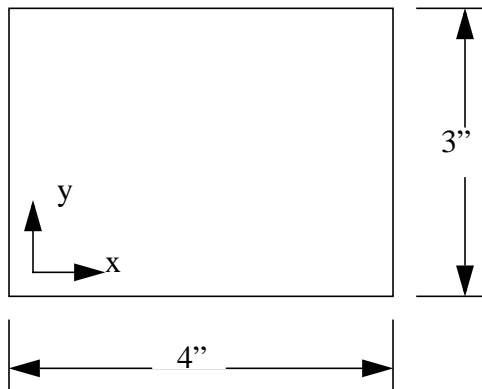

Figure 12a-1
- Create the geometry as shown in Figure 12a-1. Create the
3. Create the geometry as shown in Figure 12a-1. Create the finite element mesh using the information in Table 12a-1.